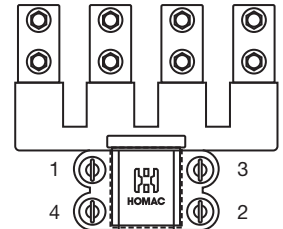

FIGURE 2
6. PUSH THE OTHER CONNECTOR HALF ONTO THE STUD THREADS AND LIGHTLY SNUG THE BOLTS, FOLLOWING THE SEQUENCE SHOWN IN FIGURE 2.
8. ROTATE THE CONNECTOR TO THE APPROXIMATE FINAL POSITION AND TORQUE TO 150 IN/LB FOLLOWING THE SEQUENCE SHOWN IN FIGURE 2.
11. AFTER ALL CABLES ARE INSTALLED AND SNUGGED, RESUME TORQUING THE STUD MOUNTING BOLTS TO 250 IN/LB AND THEN TO 360 IN/LB USING THE SEQUENCE SHOWN IN FIGURE 2.